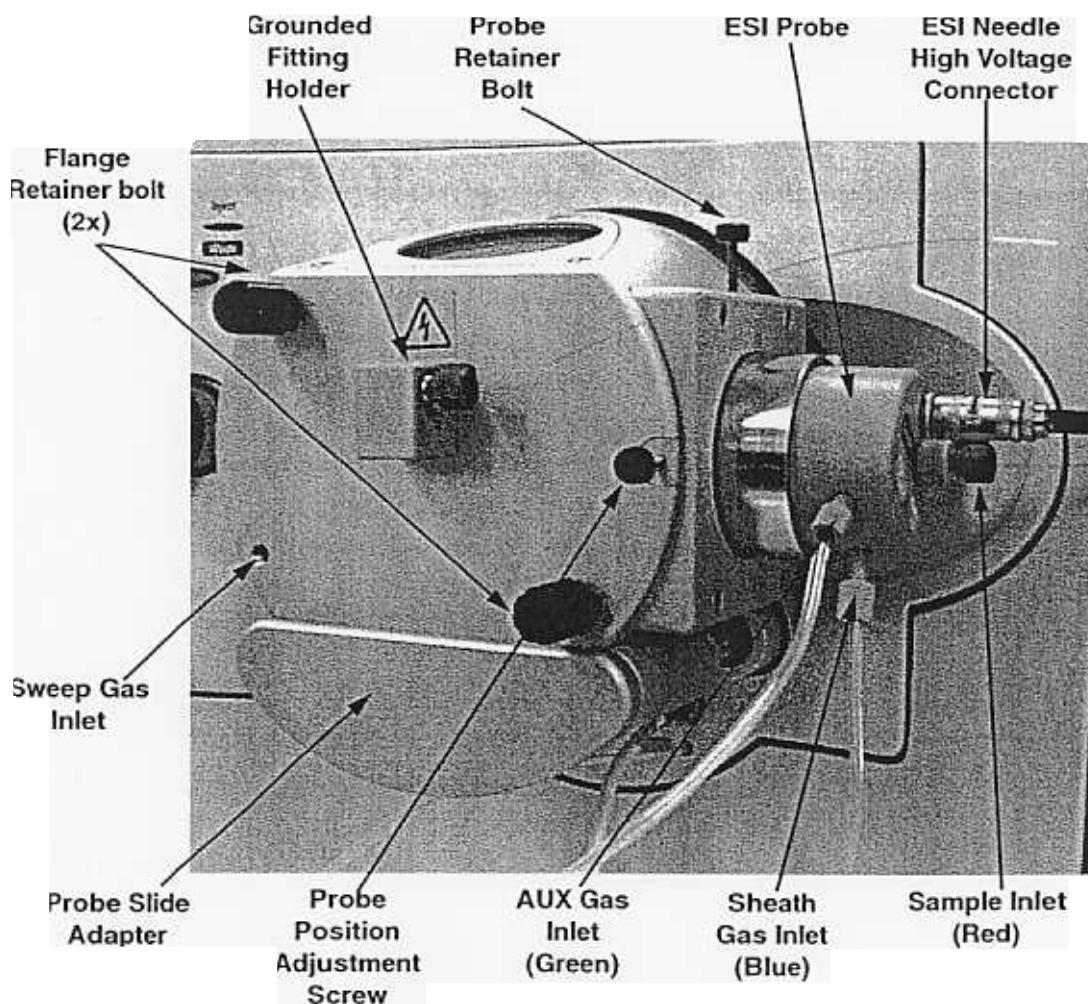

Figure 2-4. ESI probe assembly, showing AUX gas connected
To install the ESI probe assembly, proceed as follows. See Figure 2-4 for the location of the components of the ESI probe assembly.
- a. Loosen the probe retainer bolt to free the ESI probe. See Figure 2-4.
- a. Loosen the probe retainer bolt to free the ESI probe. See Figure 2-4. ESI probe assembly